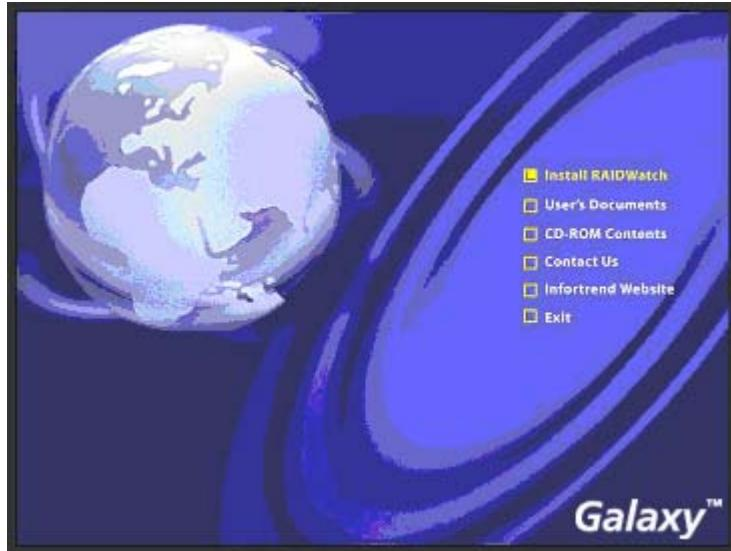

Figure 3-1: Product Utility CD Initial Screen
Step 3. The RAIDWatch installer program is included on the CD-ROM that came with your RAID controller or subsystem. An auto-run screen provides a hot link to the installer program. (See *Figure 3-1*) Click **“Install RAIDWatch.”**